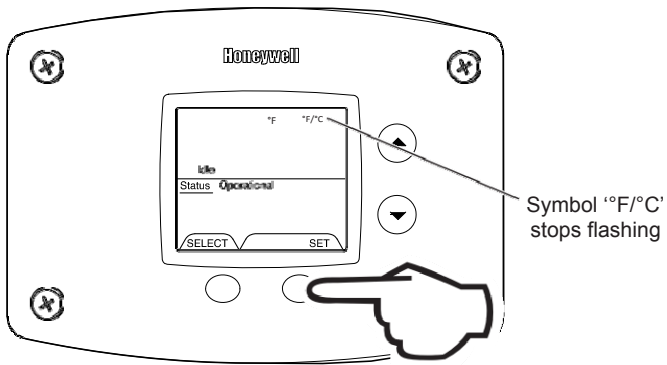

Fig. 24
- Press 'SET' button to confirm °F or °C format. F°/ °C will stop flashing. Setpoint display will appear in the format selected (°F or °C) in 10 seconds (Fig. 24).